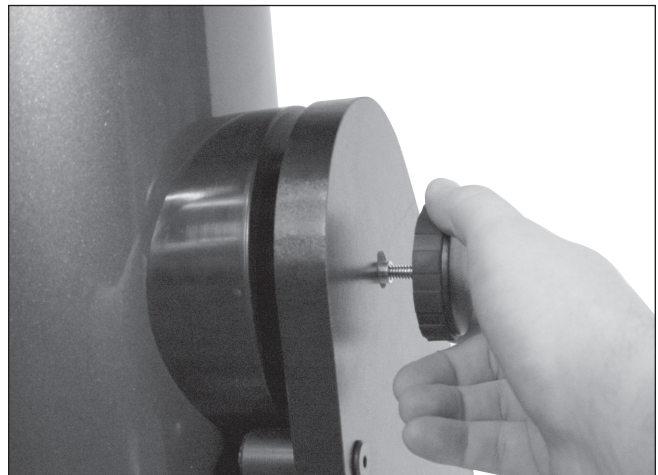

Figure 11. The retaining knob on the right side of the base is inserted through the aluminum shaft of the altitude encoder assembly.
2. Thread the other retaining/tensioning knob, which we'll now refer to as just the retaining knob, through the altitude encoder's aluminum shaft and thread it into the optical tube's right side bearing (Figure 11). Make sure this knob is fully tightened.